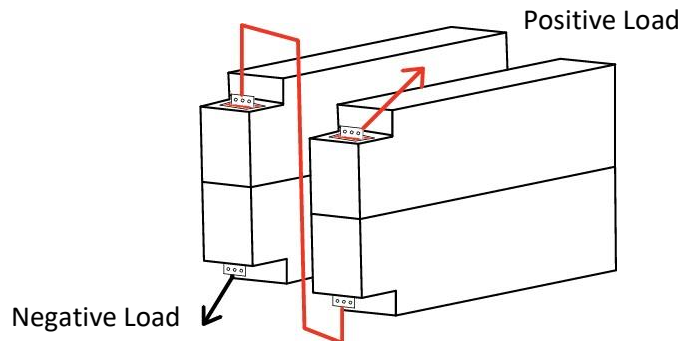

Figure 4: Two GC3 | GC3H Batteries Connected in Series to create a 24V 270Ah Battery Bank
When batteries are connected in series, current capacities remain the same, but the system voltage is additive. For example, two DFGC3 | DFGC3H batteries connected in series form a 24V 270Ah bank (shown in Fig. 4) and should be charged using a bulk and absorption voltage of 28.8V, and a float voltage of 27.2V.
7. Repeat steps 3-6 for additional batteries, but **DO NOT** exceed 48V. An example of a correct series connection can be found below in Fig. 4.